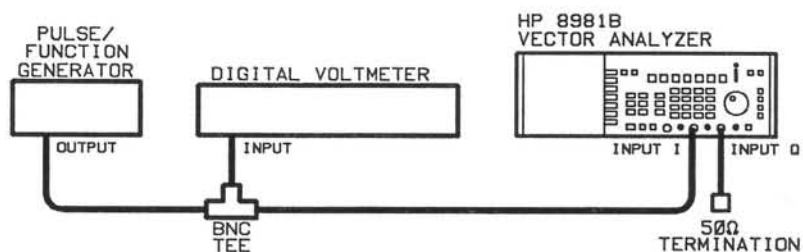

Figure 4-2. DC Vector/Differential Accuracy Test Setup
2. Connect the equipment as shown in Figure 4-2: